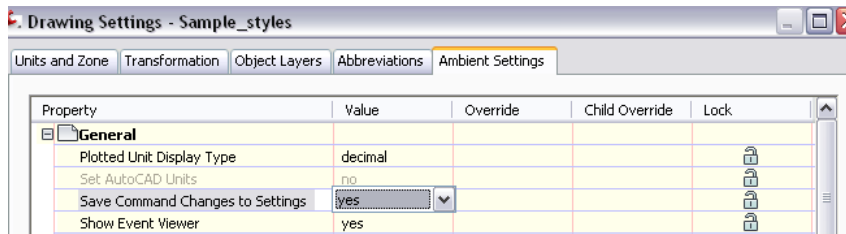

Figure 11: Use command settings to set default styles
- 2 Click the Ambient Settings tab, and expand the General property. Set the Save Command Changes To Settings property to Yes as shown in figure 11.